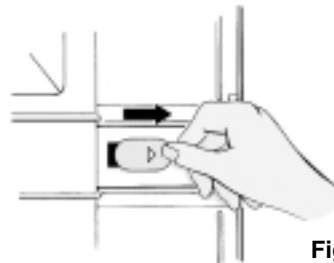

Fig. 3
4. Close the holes with the provided plastic caps. Fit the caps in the direction indicated by the arrow in the large opening and slide them into the narrow slot until they sit properly (Fig. 3).